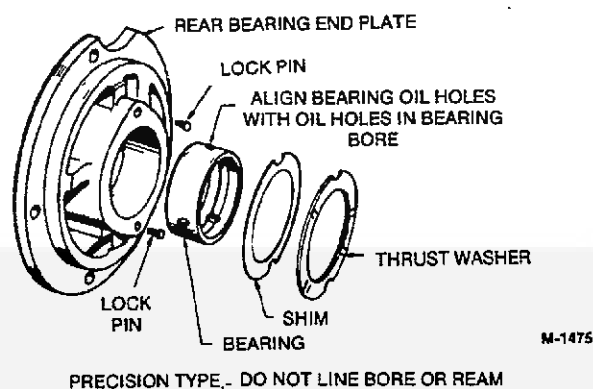

FIGURE 9-32. REAR BEARING
2. Use oil or gear lubricant to hold the front thrust washer in place against the engine block (see Figure 9-32). The flat side of the thrust washer goes against the block.
5. Use oil or gear lubricant to hold the shim(s) and rear thrust washer in position on the rear bearing plate (see Figure 9-32). The shim goes against the bearing plate, and the flat surface of the thrust washer goes against the shim.
Rear Bearing: Use the combination main and cam bearing driver and a press to install the rear main bearing. Push the bearing into the bearing plate from the inner side (see Figure 9-32) to the depth allowed by the flange on the driver.